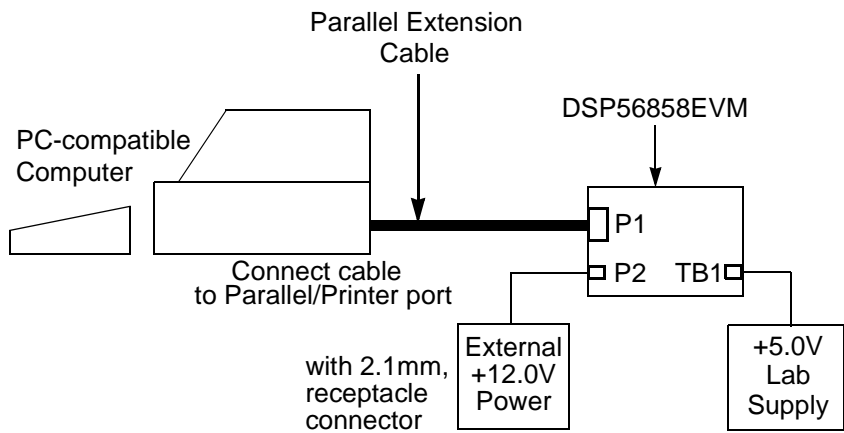

Figure 1-3. Connecting the DSP56858EVM Cables
An interconnection diagram is shown in **Figure 1-3** for connecting the PC and the external +12.0V DC/AC power supply or external +5.0V DC lab power supply to the DSP56858EVM board.
2. Connect the other end of the parallel extension cable to P1, shown in **Figure 1-3**, on the DSP56858EVM board. This provides the connection which allows the host computer to control the board.
4. Connect the 2.1mm output power plug from the external switching power supply into P2, shown in **Figure 1-3**, on the DSP56858EVM board. Optionally, attach an external +5.0V DC lab power supply via the 2-pin terminal block, TB1.